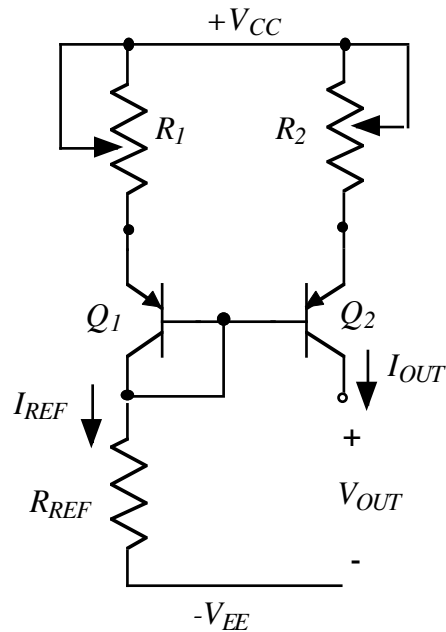

Figure 3
- a) Construct the circuit shown in Fig.3. As BJT transistors, use two discrete PNP BJTs 2N3906 and $R_{REF}=5k\Omega$. In order to match the transistor V_{BE} voltages, use two 200Ω trimpots (R_1 and R_2). Adjust R_1 and R_2 so the $I_{REF}=I_{OUT}$, while both R_1 and R_2 have **minimum** values. A proper adjustment will require one resistor (R_1 or R_2) as close to zero as possible *). This procedure is a substitute for having two matched PNP BJTs in this experiment.